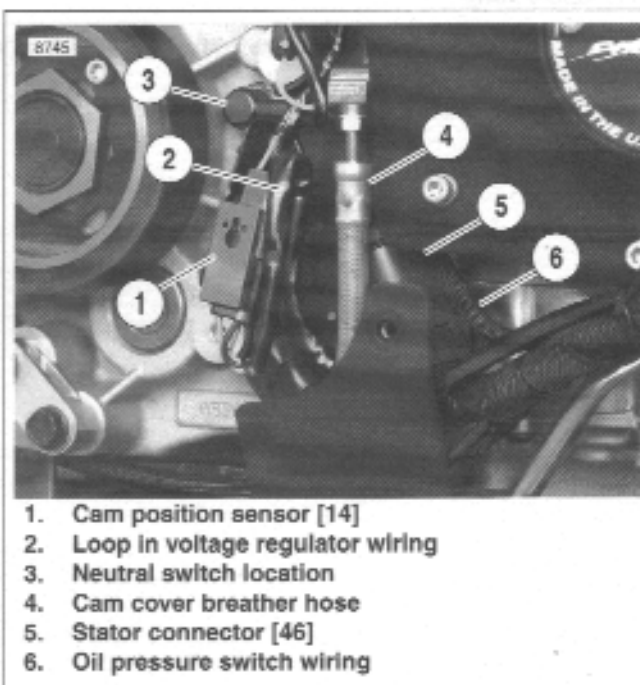

Figure 7-81. Cam Position Sensor Wiring
3. Connect stator connector (9).
4. See Figure 7-81. Connect cam position sensor [14] (1). Form a loop (2) as shown using wiring leading to cam position sensor.